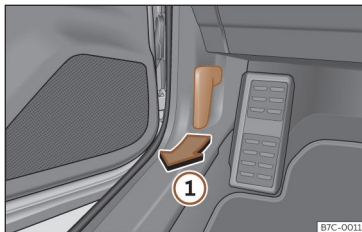

Fig. 192 Release lever in the driver's footwell area.
- Open the door and pull the lever under the dashboard»» Fig. 192 ①.